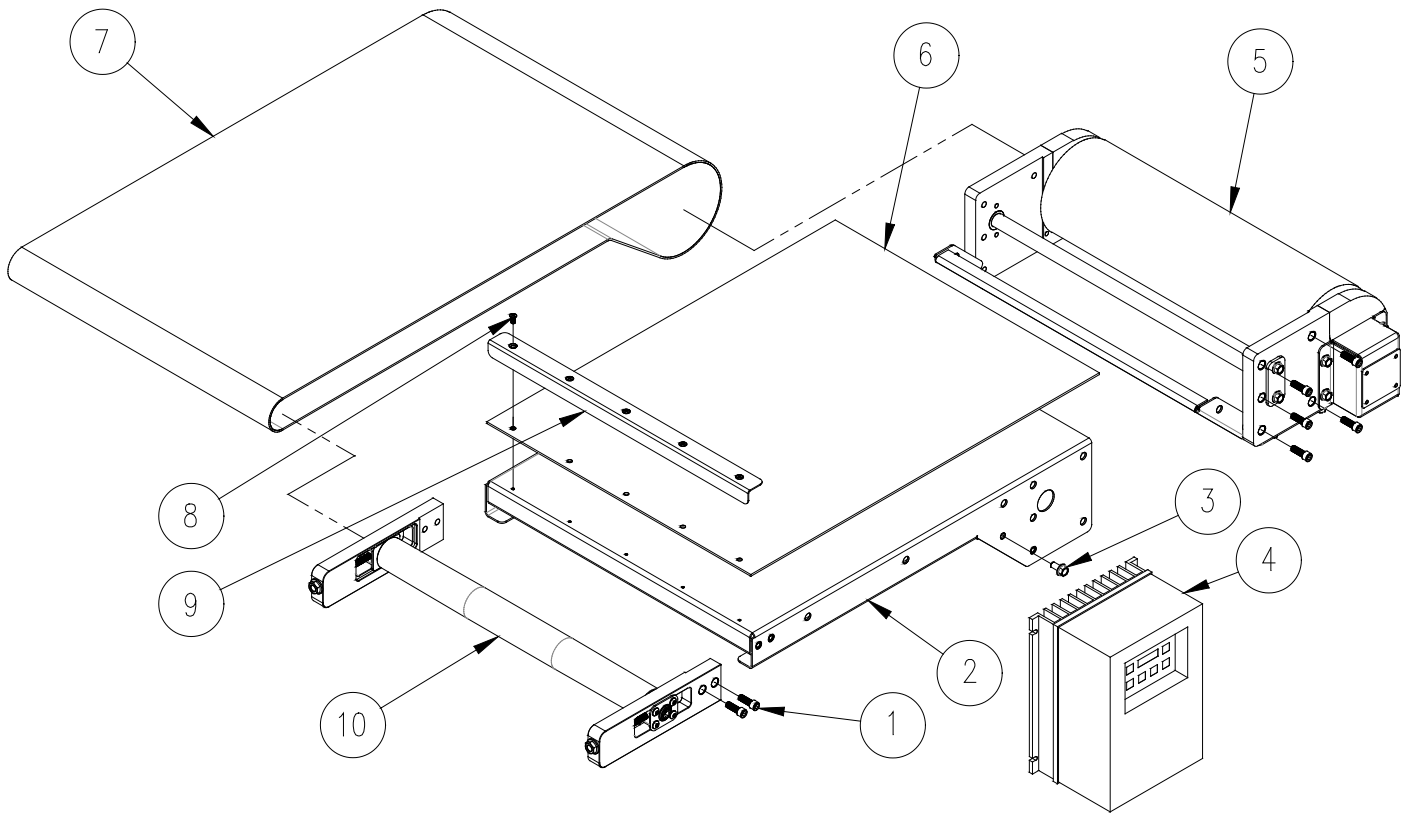

FIGURE 5. MISC. COMPONENTS
**MISC. COMPONENTS (REF. FIGURE 5)**